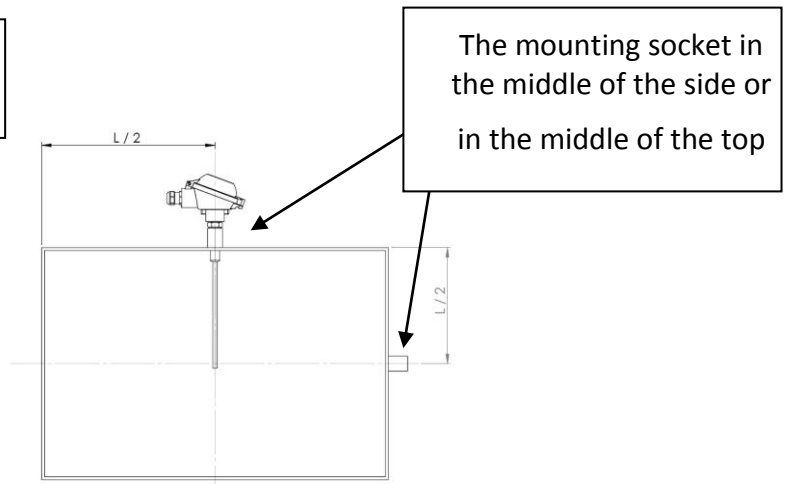

Figure 3 Square cross section duct
3. For square cross-section ducts, the unit must be positioned in the middle of the top or in the middle of one of the sides. See Figure 3